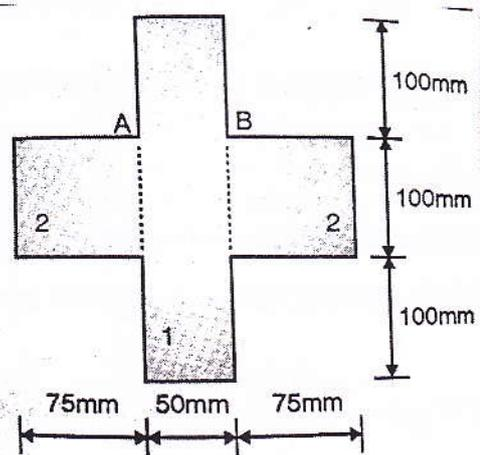

Fig.4c
- c) A beam of extruded magnesium has the uniform cross section shown in fig.4c. Calculate the shear stress at the junction AB, if the total shear force on the cross section is 225 KN. 09 L₃ CO 5